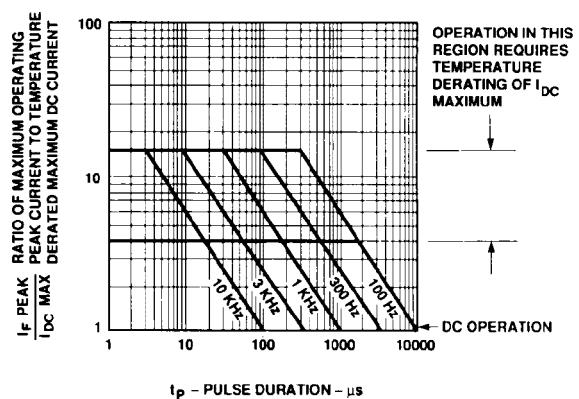

Figure 2. Maximum Allowed Peak Current vs. Pulse Duration – AlGaAs Red.
3. See Figure 2 to establish pulsed conditions.